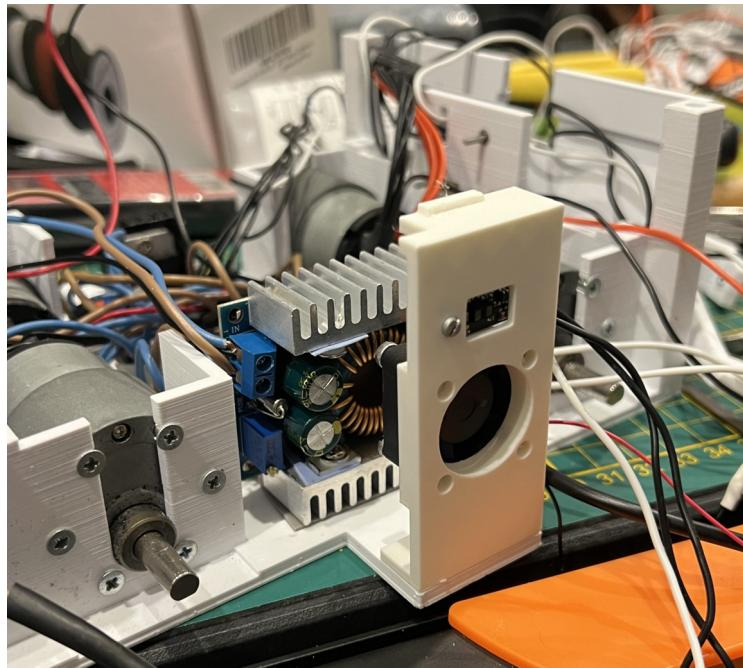

Figure 69: Installed the new 12A active cooled step-down converter
- Once again disassembled half the robot to replace one of the step down converters with this one as seen in Fig. 69
Step-down converter is big and requires active cooling but the space inside the robot is limited	Fixing the step-down converter lying on its side with adhesive tape, cutting a part out of the battery compartment above it and integrating the cooler into one of the side plates as seen in Fig. 69